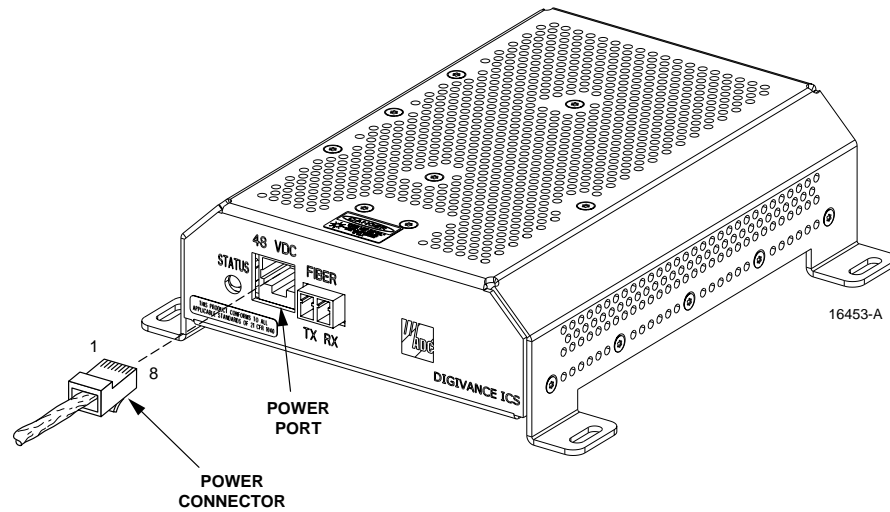

Figure 16. DC Power Cable Connection
2. Connect the DC power cable to the **48 Vdc** connector on the DRU as shown in Figure 16.
2. Connect the DC power cable to the **48 Vdc** connector on the DRU (see Figure 16).